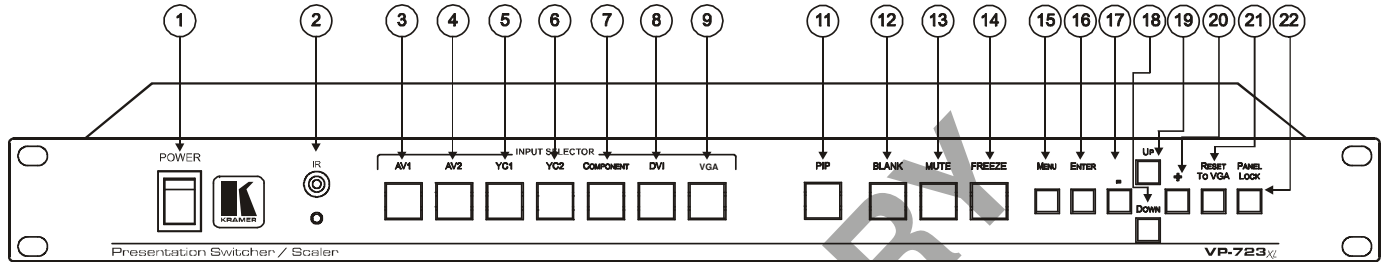
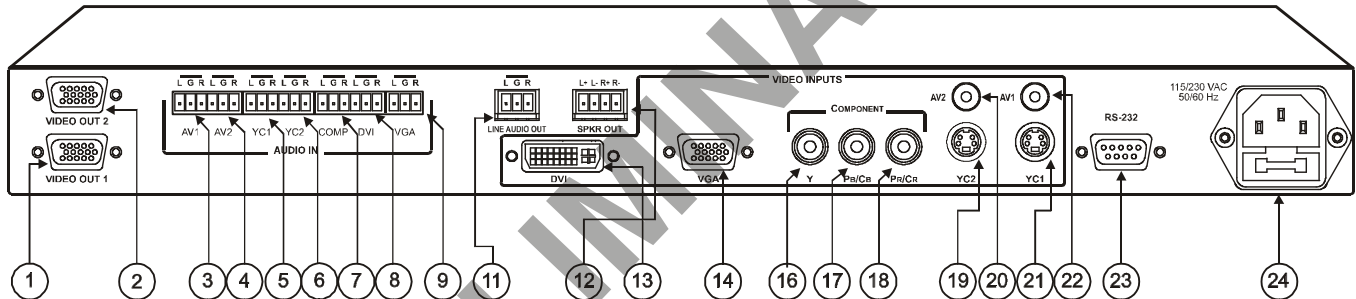

Figure 5: VP-723xl Presentation Switcher / Scaler Front Panel¹
Figure 6: VP-723xl Presentation Switcher / Scaler Rear Panel²
- Figure 5 and Figure 6 illustrate the **VP-723xl** *Presentation Switcher / Scaler*